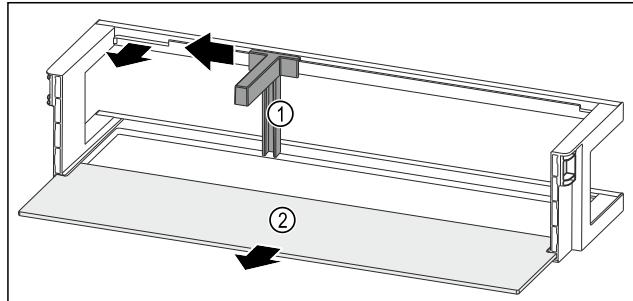

Fig. 122 Door rack with bottle holder and shelf
- ▶ Slide the bottle holder Fig. 122 (1) to the side as far as the recess.
- ▶ Remove the bottle holder Fig. 122 (1).
- ▶ Remove the shelf Fig. 122 (2).